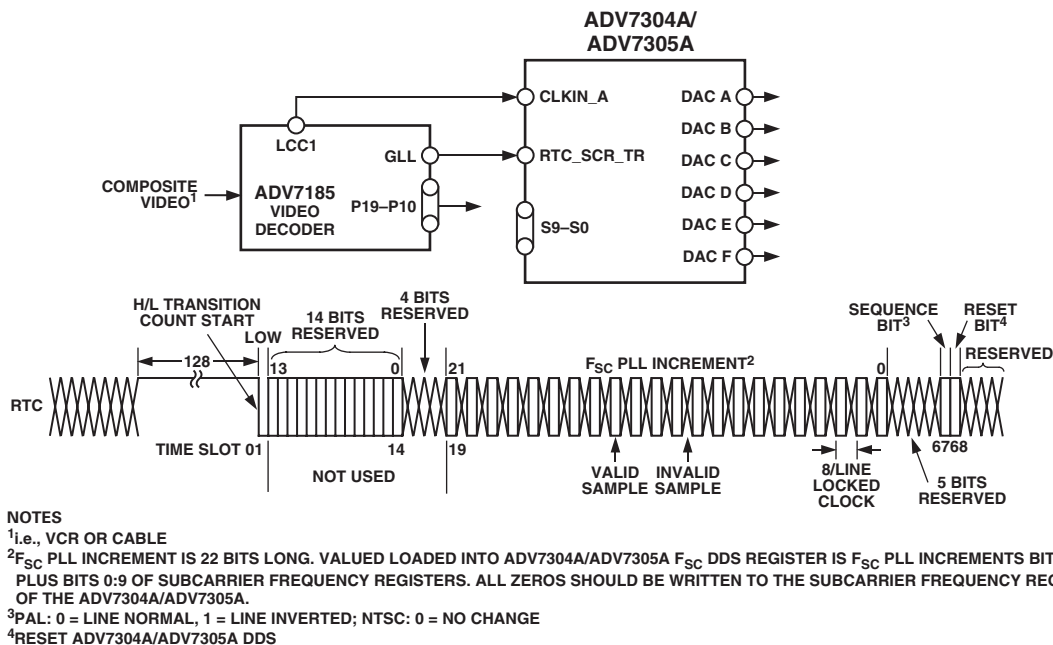

Figure 29. RTC Timing and Connections
- In RTC Mode, the ADV7304A/ADV7305A can be used to lock to an external video source. The Realtime Control Mode allows the ADV7304A/ADV7305A to automatically alter the subcarrier frequency to compensate for line length variations. When the part is connected to a device that outputs a digital data stream in the RTC format (such as a ADV7185 video decoder, see Figure 29), the part will automatically change to the compensated subcarrier frequency on a line-by-line basis. This digital data stream is 67 bits wide and the subcarrier is contained in Bits 0 to 21. Each bit is two clock cycles long. 00h should be written into all four Subcarrier Frequency Registers when using this mode.